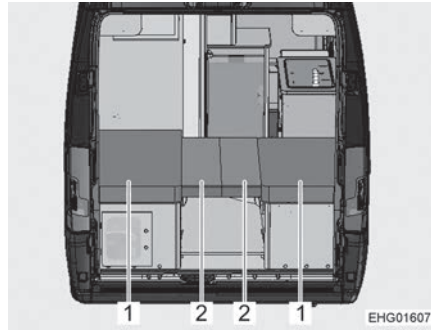

Fig. 85 After conversion
- Place the two seat cushions (Fig. 85,1) on the benches and place the two back cushions (Fig. 85,2) on the slatted frame pull-out.